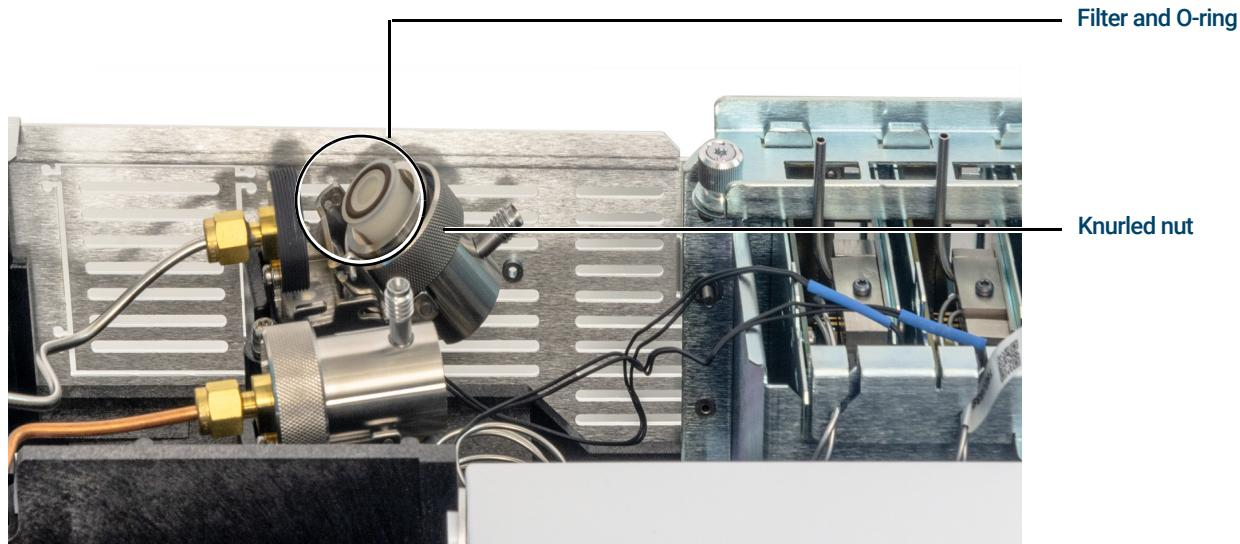

Figure 31. Slide trap assembly to expose the filter
- 5 Slide the trap assembly back from the guided mounting bracket and tilt up to expose the filter as shown in Figure 31.